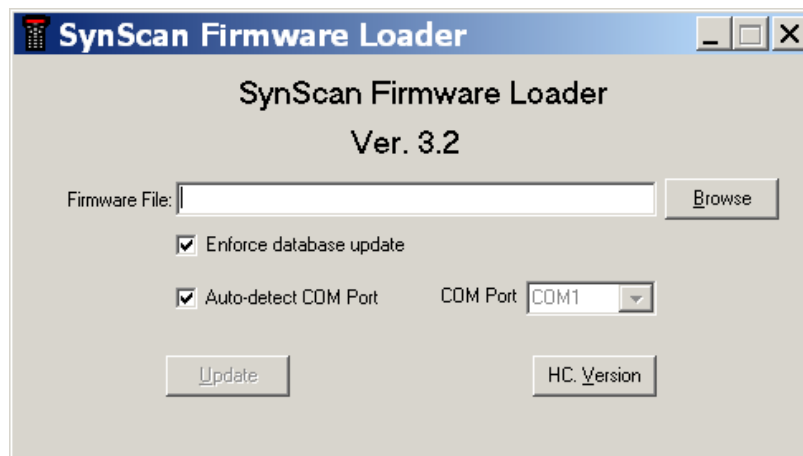

Fig. 10.3a
3. On the computer, run the **SynScanFirmwareLoader.exe**. An application window is show in Fig 10.3a.